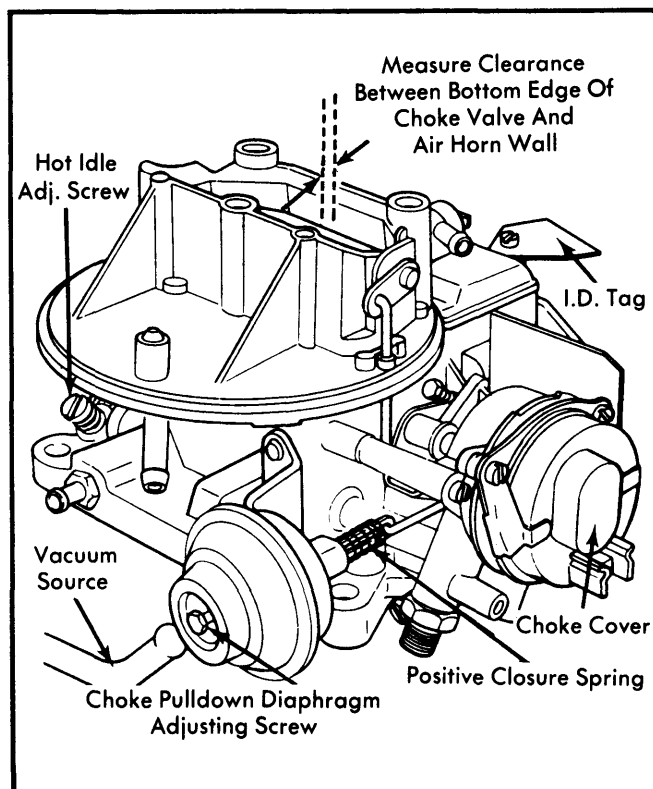

Fig. 4 Adjusting Choke Pull-Down Clearance
- 1) Position fast idle speed screw on high step of fast idle cam. Loosen choke cover retaining screws. Turn cover $\frac{1}{4}$ turn counterclockwise (rich) to close choke valve. Tighten retaining screws. See Fig. 4.